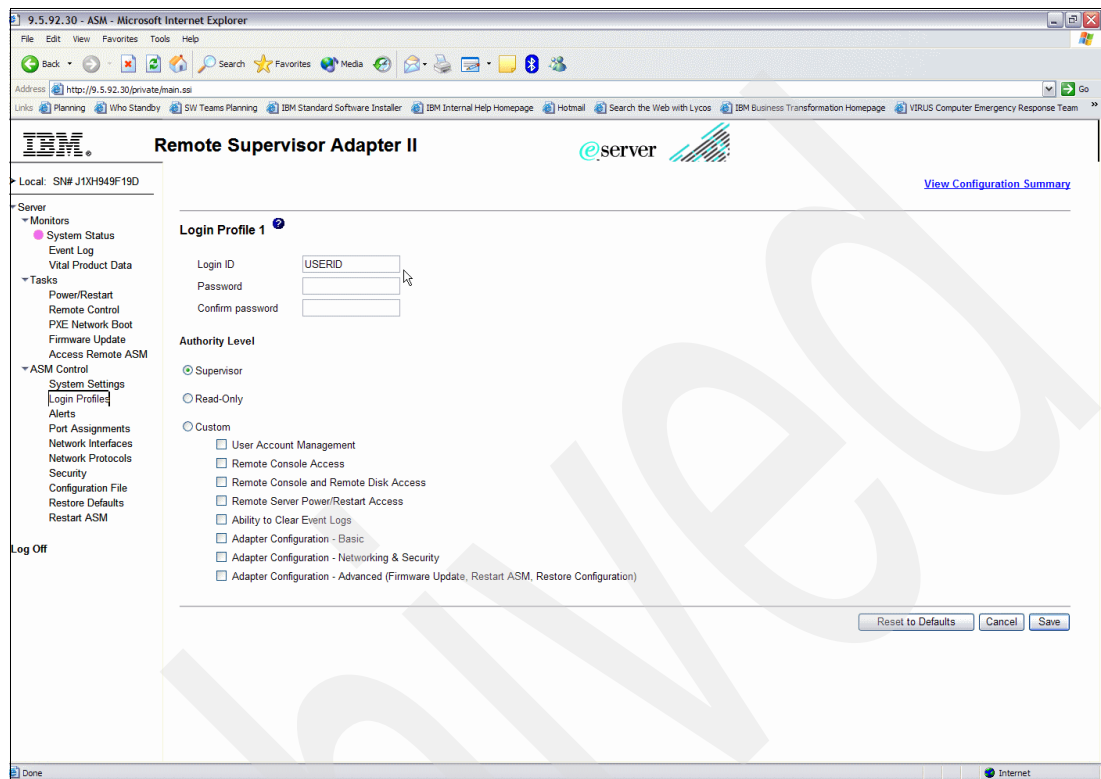

Figure 5-45 Login Profile properties on RSAII
- The Login Profile window opens (Figure 5-45). On this window, change the **Login ID** and fill in the **Password** and **Confirm Password** field. Also make sure the Authority Level is set to **Supervisor**. Click **Save**.